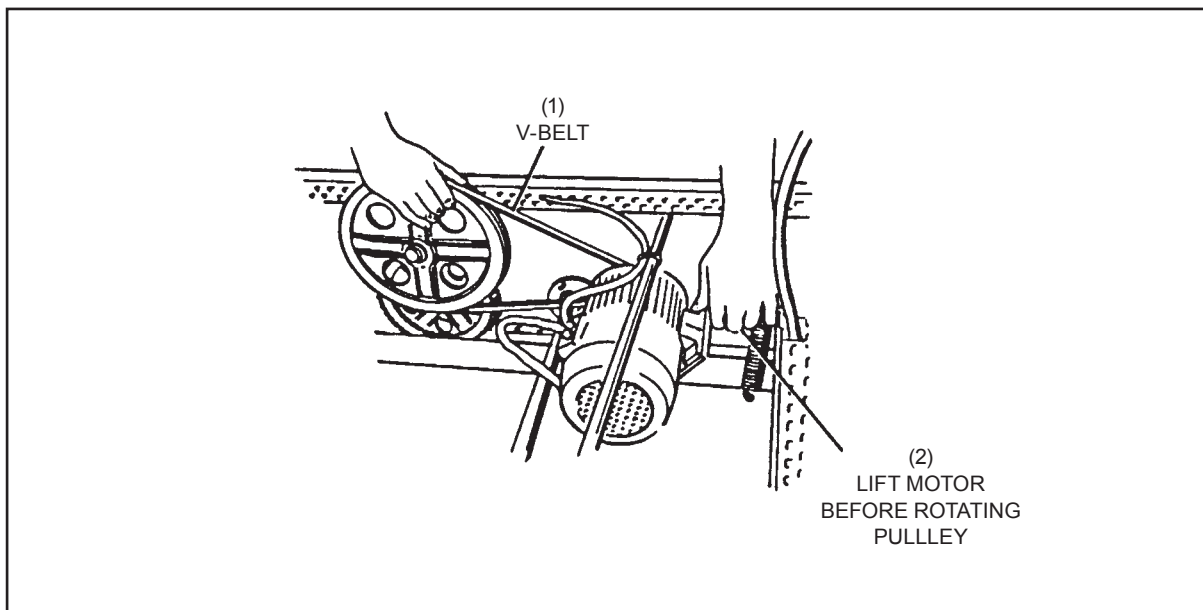

Figure 8-1. Manually Raising or Lowering the Setting Table.
3. Firmly grip the top of the large table V-belt pulley. Refer to *Figure 8-1*.
(1) 914 mm (3') LONG 1 X 4 SPACER (2) SETTING TABLE
3. Manually lower the setting table assembly so it is supported by the spacers. Refer to *Figures 8-1* and *8-2*.